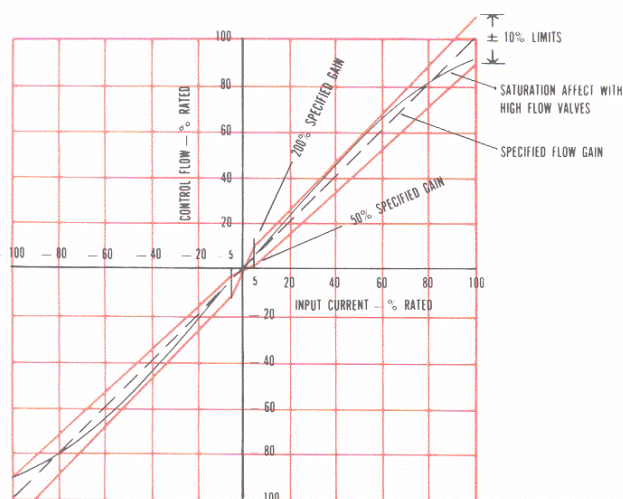

FIGURE 4 NO-LOAD FLOW GAIN TOLERANCES
**FLOW GAIN** The no-load flow characteristics of 750 Servovalves can be plotted to show flow gain, symmetry and linearity. Typical limits (excluding hysteresis effects) are shown in Figure 4.